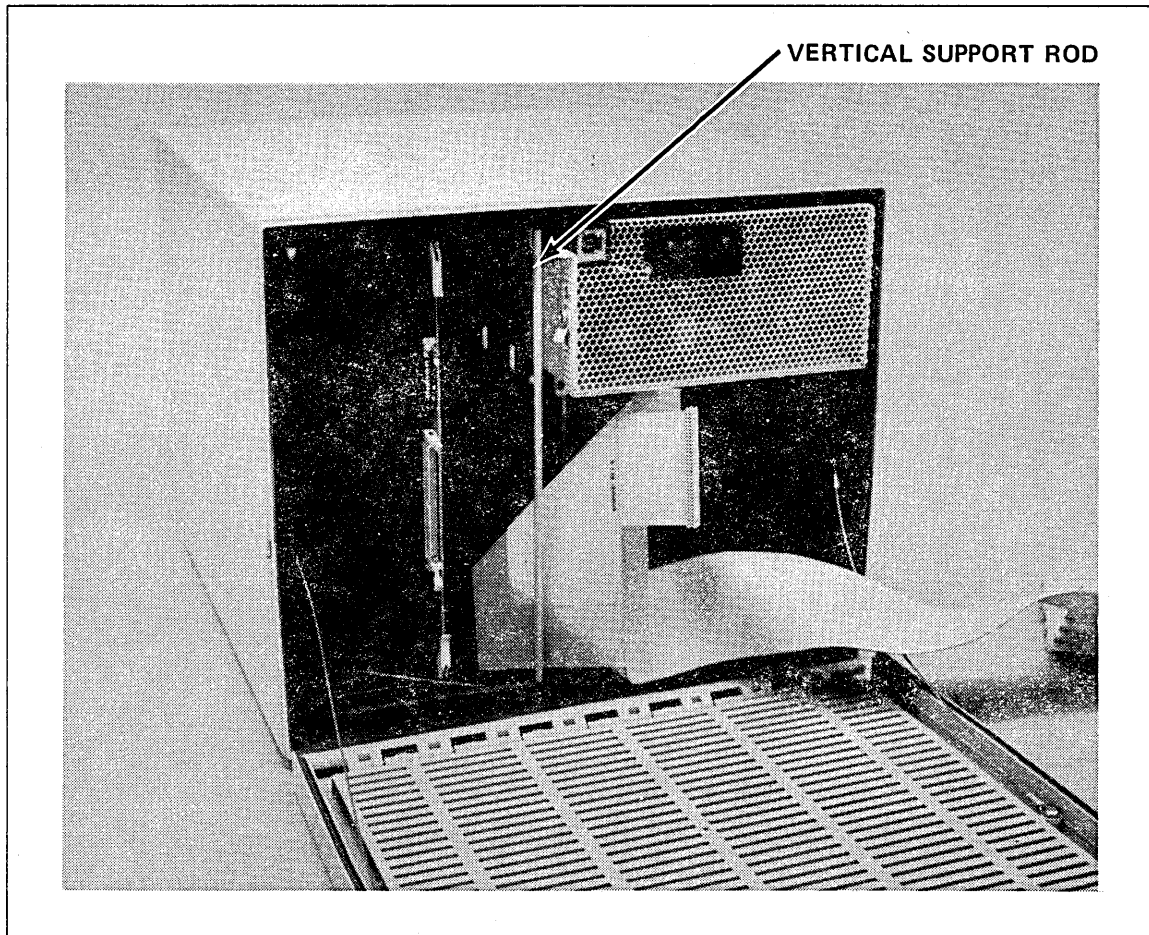

Figure 1-41. CIM/LIM Cable Installation Position
1. Power off the DI and, holding the cable near the CIM connector, position the cable behind the vertical support rod in the front-center of the cabinet. The fiberglass support should be on the left, facing the CIM board. Refer to figure 1-41.